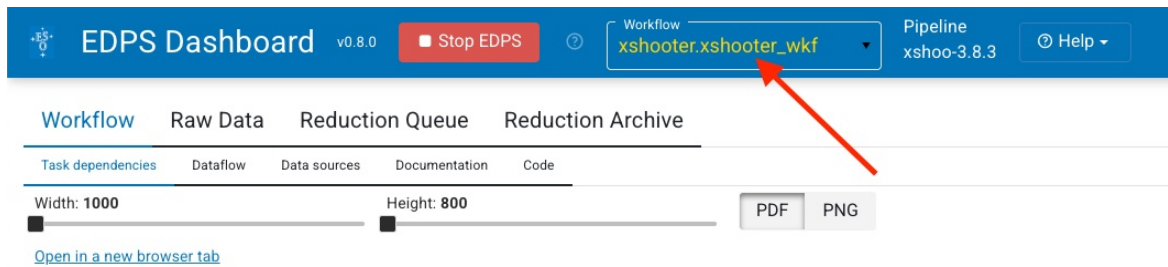

Figure 4: The edps-gui with the XSHOOTER workflow loaded.
5. Choose the `xshooter.xshooter_wkf` workflow from the list in the ‘Workflow’ field. The workflows offered in this selector depend on the installed pipelines. The graphic workflow representation will appear as in Figure 4.